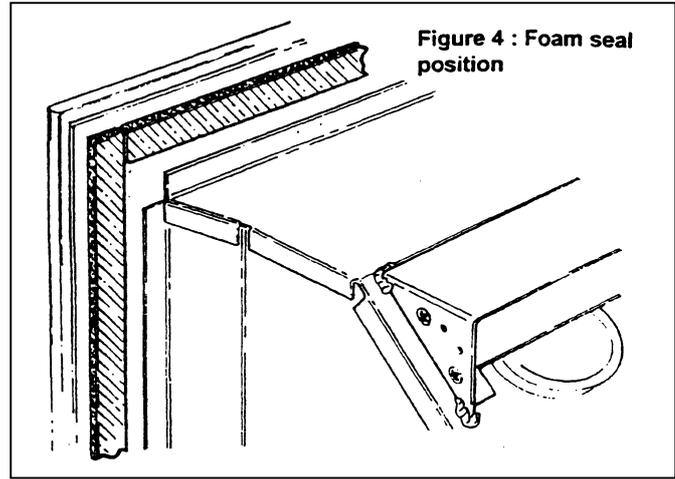

Figure 4 : Foam seal position
- Place the adhesive foam seal to the rear of the appliance frame (see figure 4) ensuring full contact with the fireplace opening.